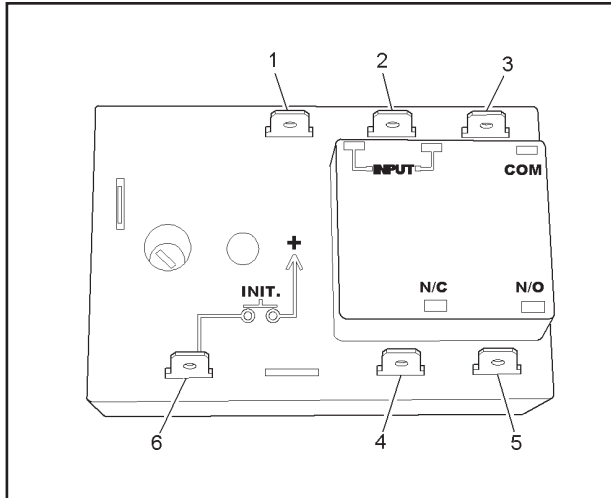

FIGURE 3-11
A heat system timer is shown (See Fig. 3-11). There are six terminals on the timer. The top two left terminals are the main 12vdc input terminals for the timer. The ground (1) is on the left and the power (2) is on the right.